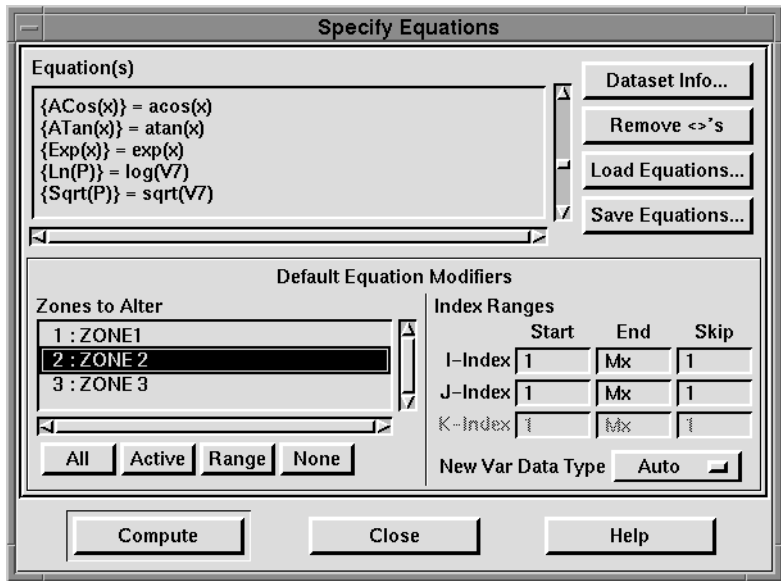

Figure 25-1. The Specify Equations dialog.
2. From the Alter menu, choose Specify Equations. The Specify Equations dialog appears as shown in Figure 25-1.